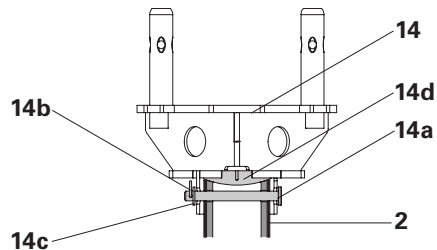

Fig. 24
- Starting position: extend the spindle tube (2) so that the red pressure piece is visible in the centre of slotted hole 9.
- Due to the spherical piece (14d), inclination compensation of up to 2° is possible. (Fig. 24)